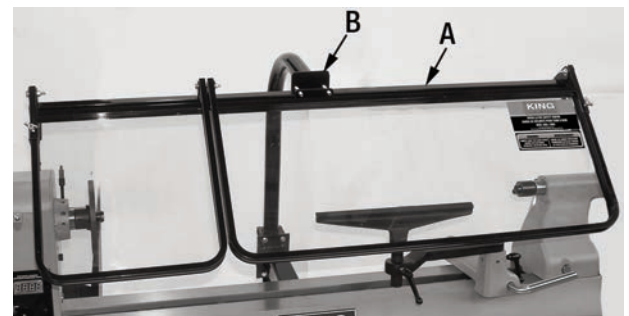

FIGURE 3
1. Position the safety guard assembly (A) Fig.3 into the channel at the end of the arm (B). Centre the safety guard assembly and then secure it to the arm using two hex. bolts and washers.